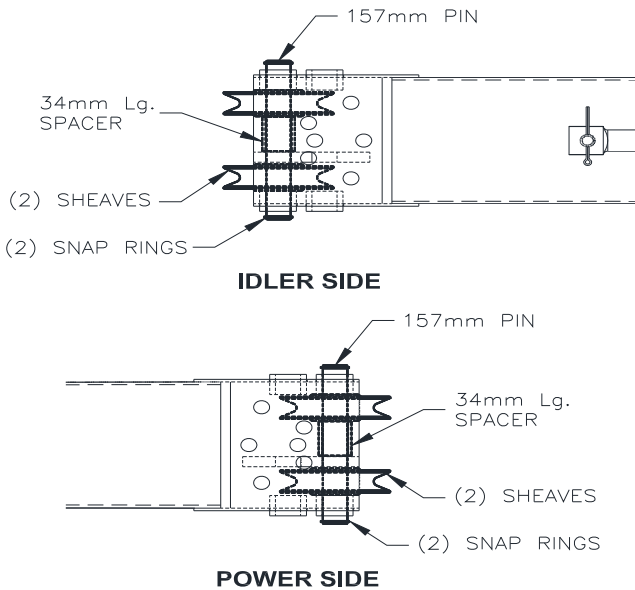

Fig 8 – Symmetric Sheave Assembly
17) With the Overhead positioned **UPSIDE DOWN**, assemble the cable sheaves, spacers, and pins as shown in **Fig 8** below.